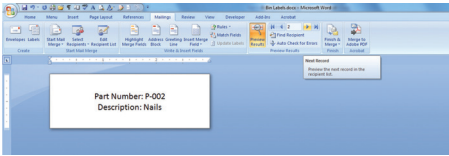

FIGURE 16 Click Next Record arrow to display the next label in the sequence.
- N. Click on the **Next Record** arrow to display the next label in the sequence (Fig. 16).